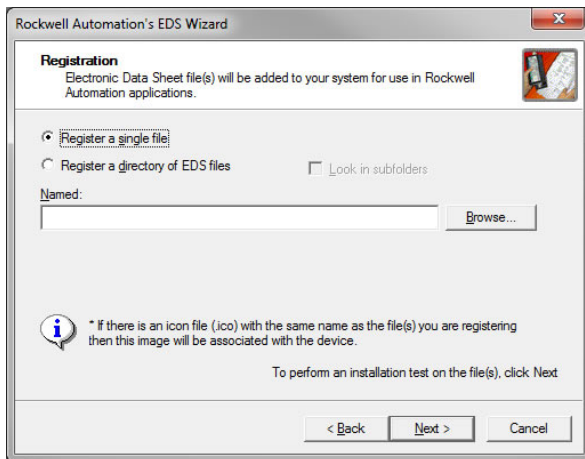

Figure 33: EDS Registration
- 4) The “Registration” dialog will appear. Refer to Figure 33. Click “Browse”, select the interface card’s EDS file, and click “Next”.